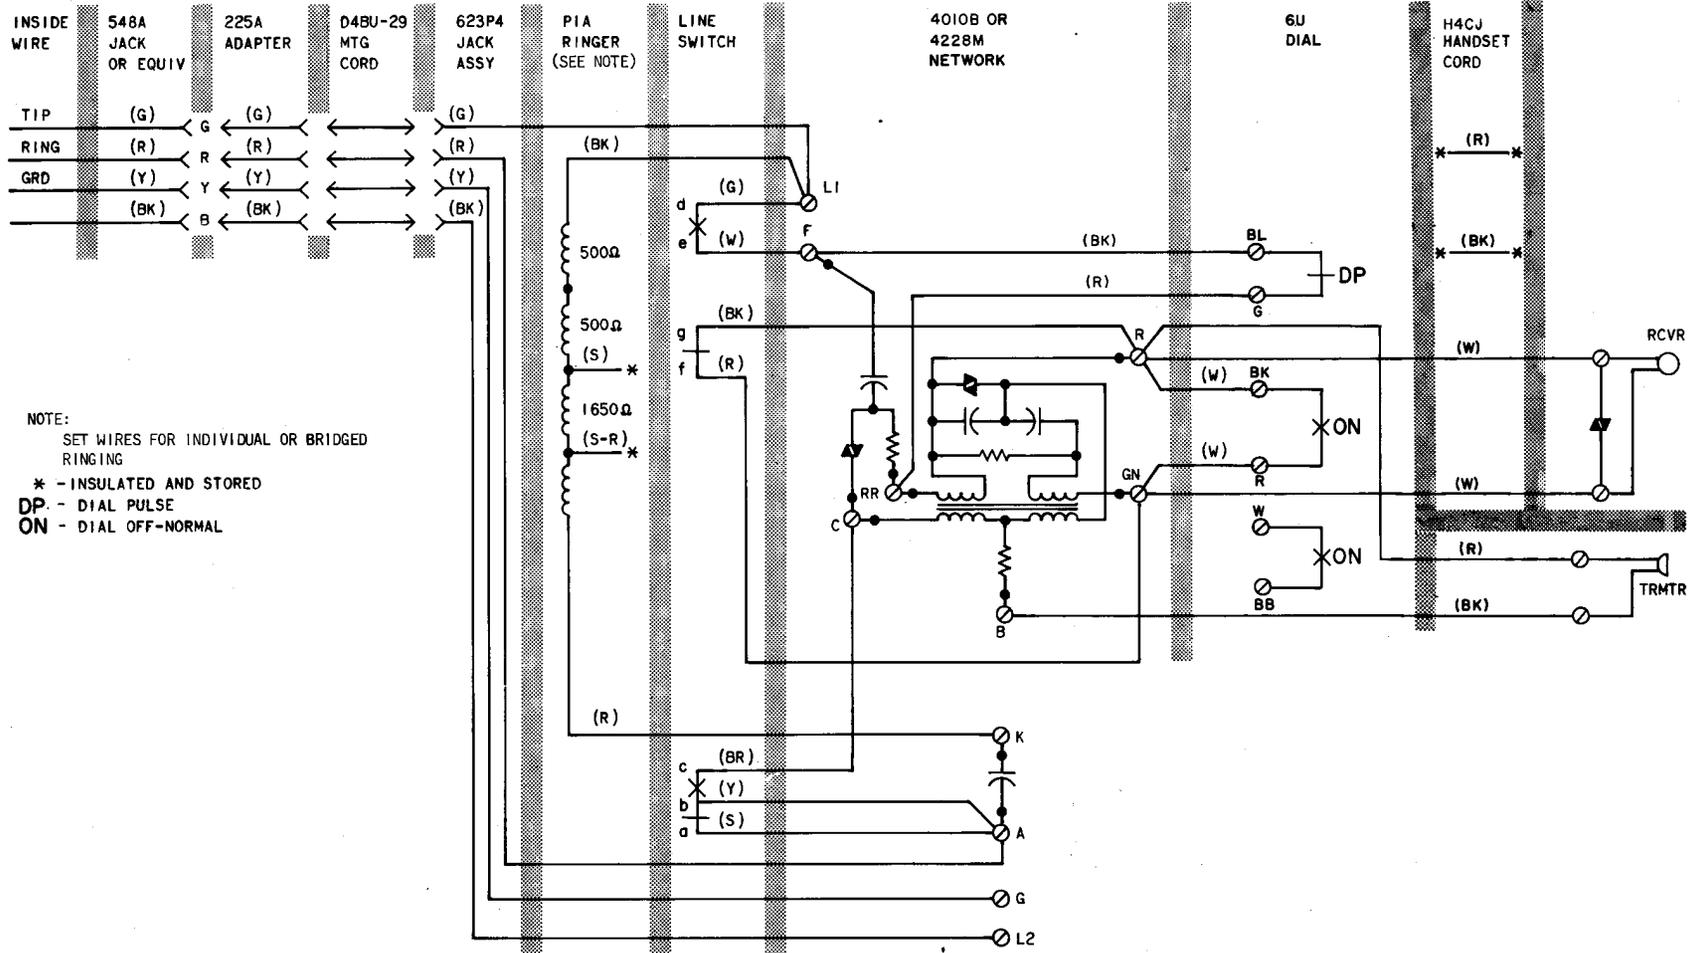

Fig. 5—881A105 (MD), 881A106 (MD), 881A107 (MD), or 881A108 (MD) Telephone Set, Connections
3.02 The internal connections for the 881A105, 881A106, 881A107, 881A108, and 881B105, 881B106, 881B107, 881B108 telephone sets, for nonkey system use, are shown in Fig. 5 and 7.
3.04 Connections for 1A KTS do not require any telephone set modifications and are wired same as Fig. 5, 7, and 9.